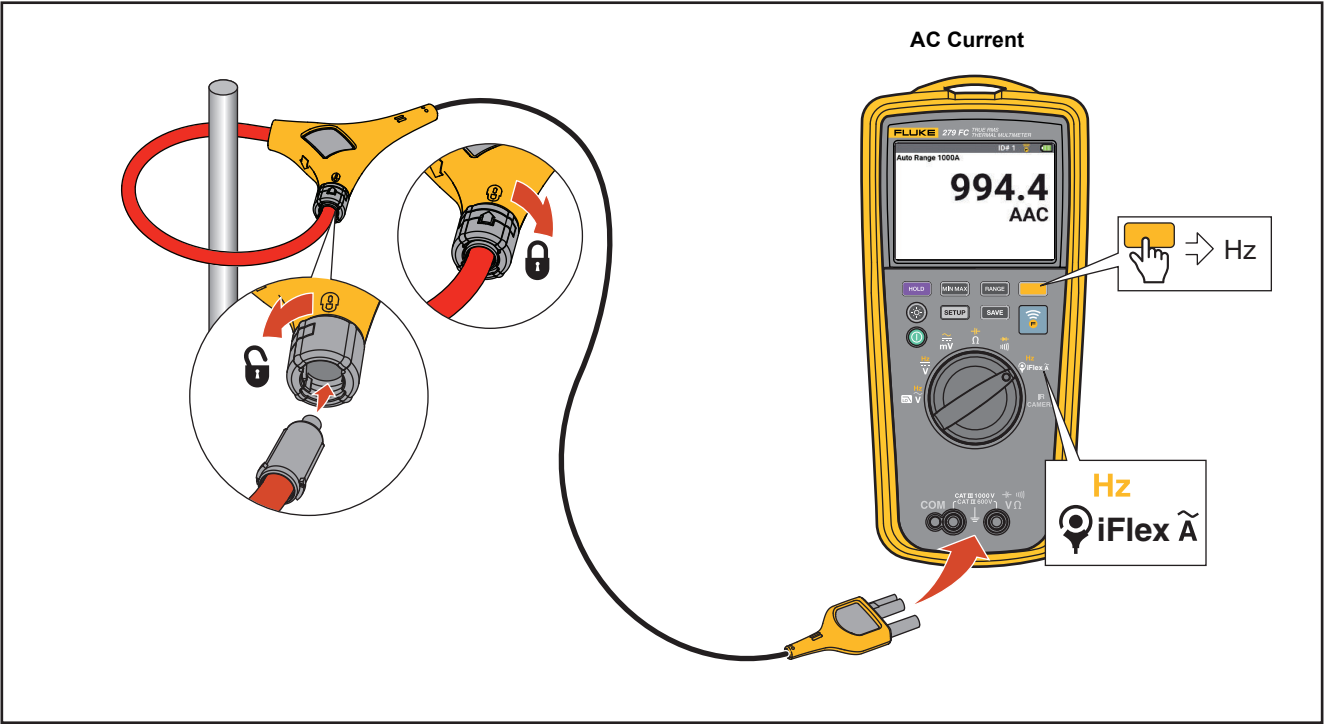

Figure 10. AC Current Measurements
- AC Current Measurements. See Figure 10.
1. Connect the iFlex Current Probe to the input on the Multimeter. See Figure 10.